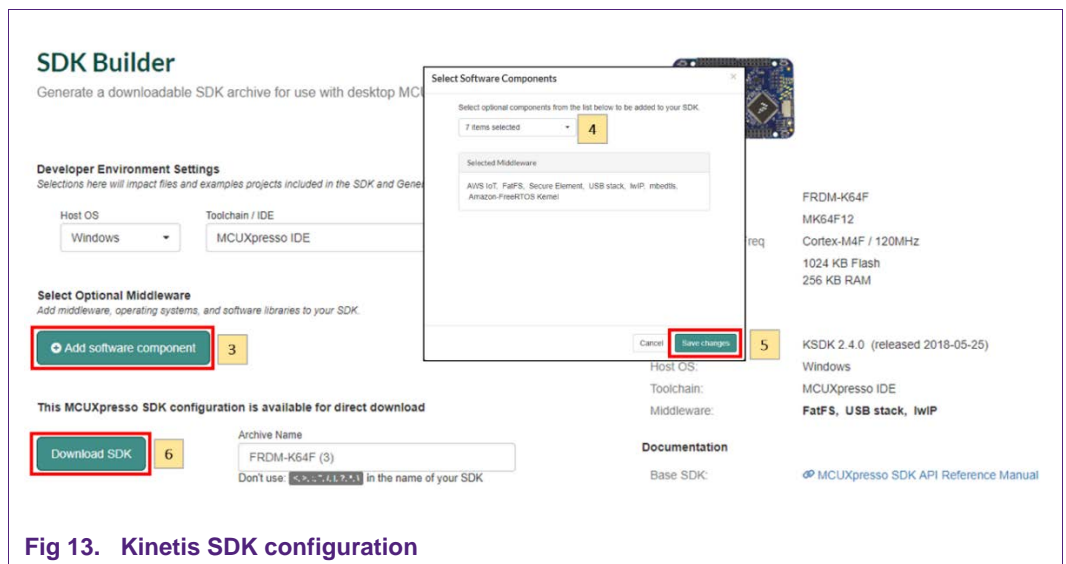

Fig 13. Kinetis SDK configuration
2. In the next screen, select the software components, for this example no special items need to be selected and you can skip this step (see Fig 13) and directly click on 'Download SDK'.